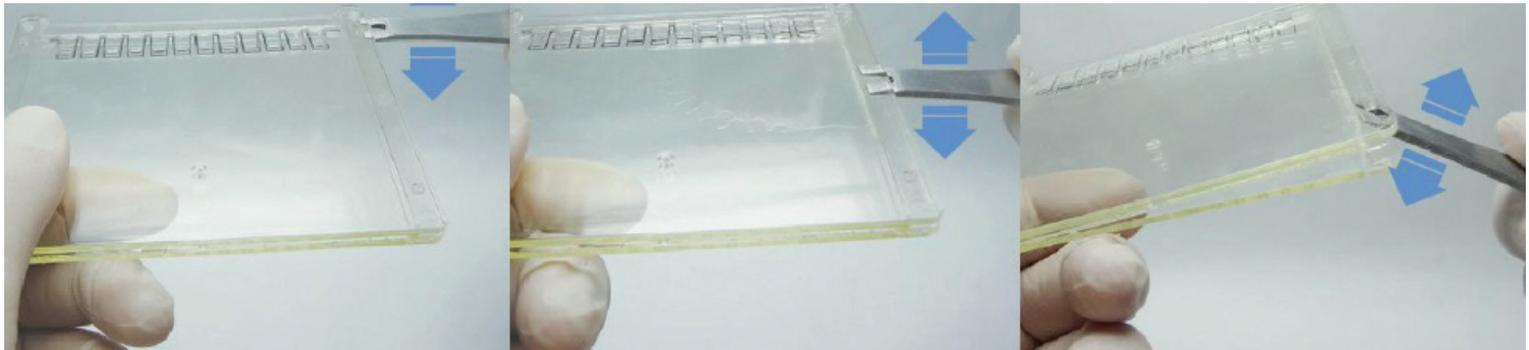

Fig.5
9) After protein migration, remove the gel from the gel tank and open the cassette carefully by inserting the cassette opener into the gap between the two plates. A cracking sound may be heard as you open the cassette. Please wear protective goggles to avoid eye contacts or damages (Fig 5).